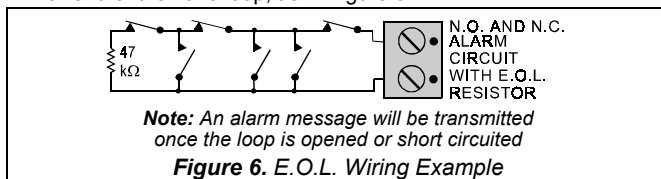

Figure 6. E.O.L. Wiring Example
- If the auxiliary input is defined as an E.O.L. type (SW2 set to ON), Normally Closed (N.C.) as well as Normally Open (N.O.) sensor contacts can be used. A 47kΩ E.O.L. resistor must be wired at the far end of the zone loop, as in Figure 6.